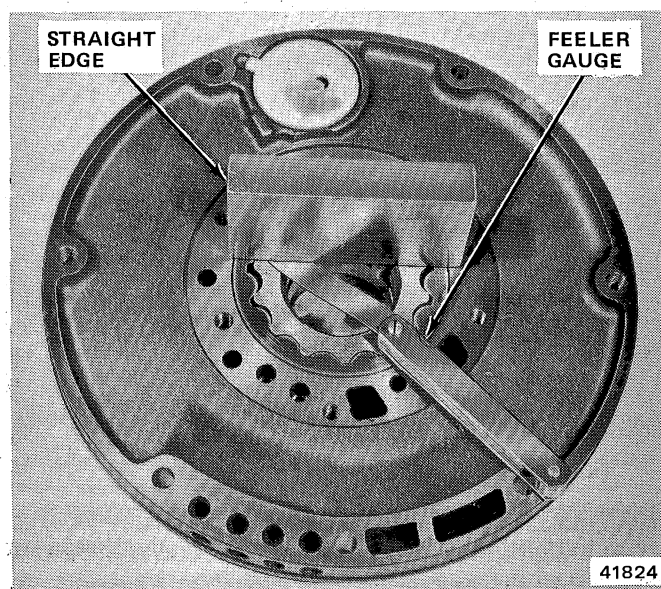

Fig. 2C-61 Measuring Rotor End Clearance—Model 727
(1) Place pump housing, with reaction shaft support mating surface facing downward, on flat, level surface.
(2) Remove bushing using Remover/Installer Tool J-24055 and Driver Handle J-8092 (fig. 2C-63).